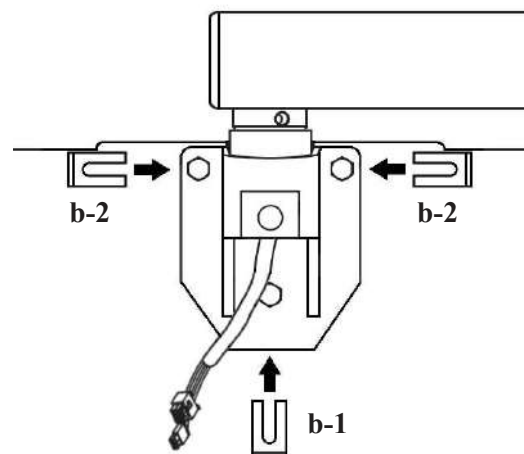

Fig.3-5B Shims
- b. If the angle in the center position is different from the angle at the left and right positions, place the shims supplied between the arm bracket and the wall plate to adjust the angle. (**Fig. 3-5B**)